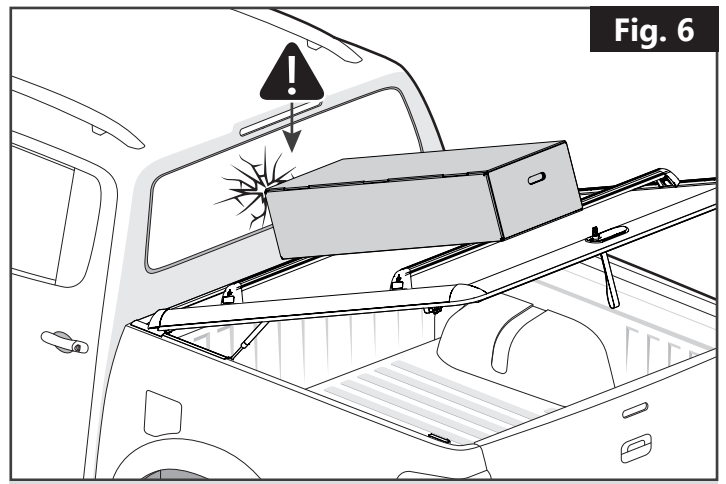

Fig. 6
- Remove all top loaded cargo before opening the cover, as it may damage the truck cab. **(Fig. 6)**